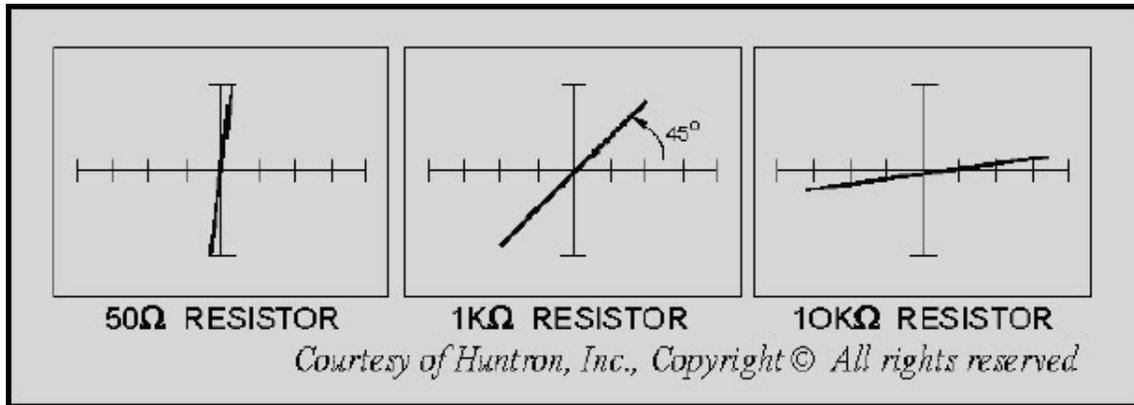

Figure 5-31 Effects of resistance on the rotation angle in medium 1 range
**MEDIUM 1 RANGE** - The medium 1 range is designed to test for resistance values between  $50\Omega$  and  $10K\Omega$ . Figure 5-31 shows the signatures for a  $50\Omega$  resistor, a  $1K\Omega$  resistor, and a  $10K\Omega$  resistor using the medium 1 range. Resistors that are smaller than  $50\Omega$  display a signature that is almost a vertical line. A  $1K\Omega$  resistor causes a change in the angle of rotation of  $45^\circ$ , whereas the display of a  $10K\Omega$  resistor shows only a slight rotation. Resistance values under test higher than  $10K\Omega$  produce a signature with such a small rotation angle that it almost appears to be a horizontal line.